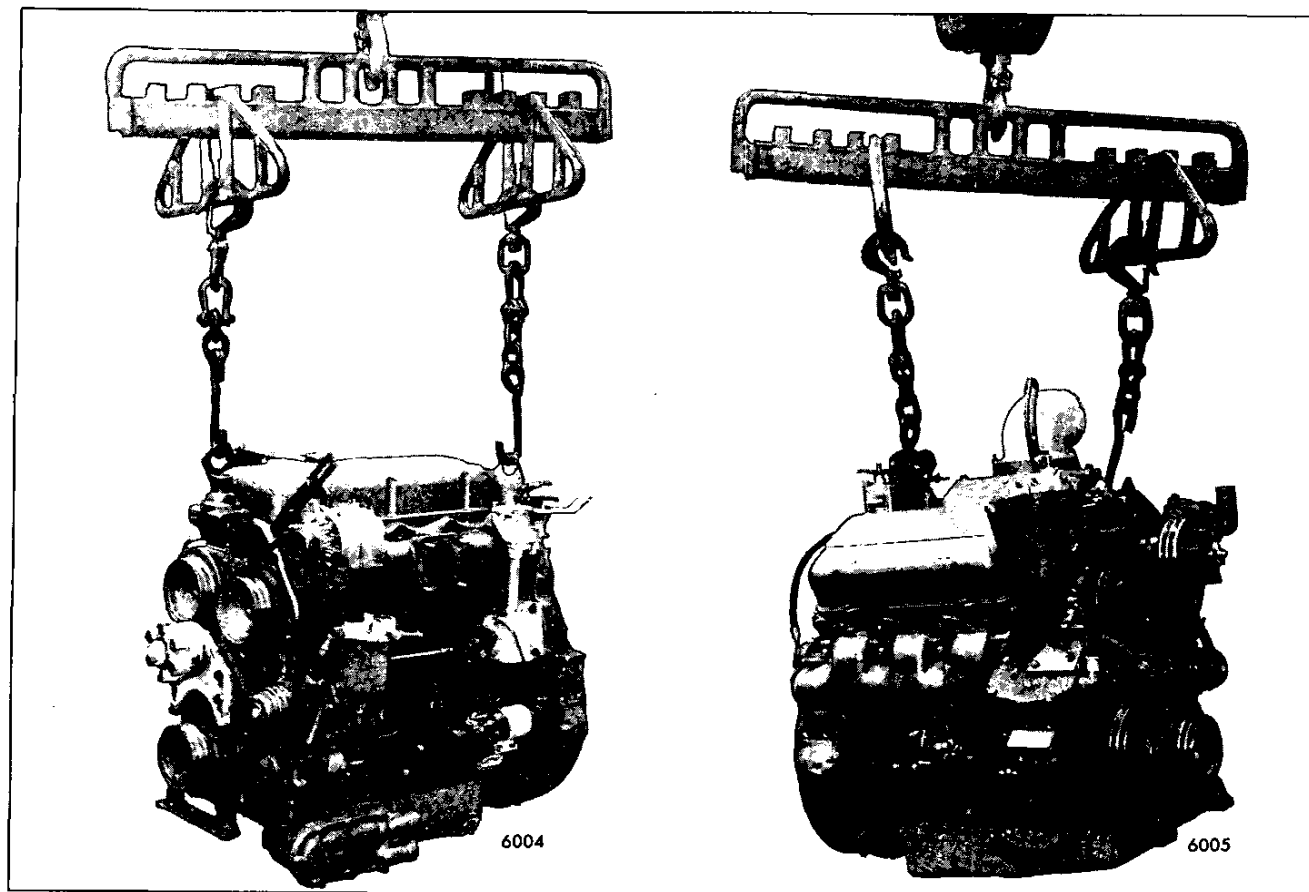

Fig. 9 – Lifting Engine with Spreader and Sling
17. Use a spreader bar with a suitable sling and adequate chain hoist to lift the engine from its base (Fig. 9).